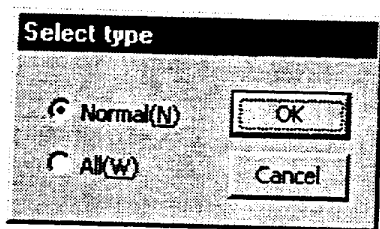

Figure 7.32 "Select type" dialog box
Click "*Download (D)*" in the "Program Manager" menu to display the "Select type" dialog box (see Figure 7.32).